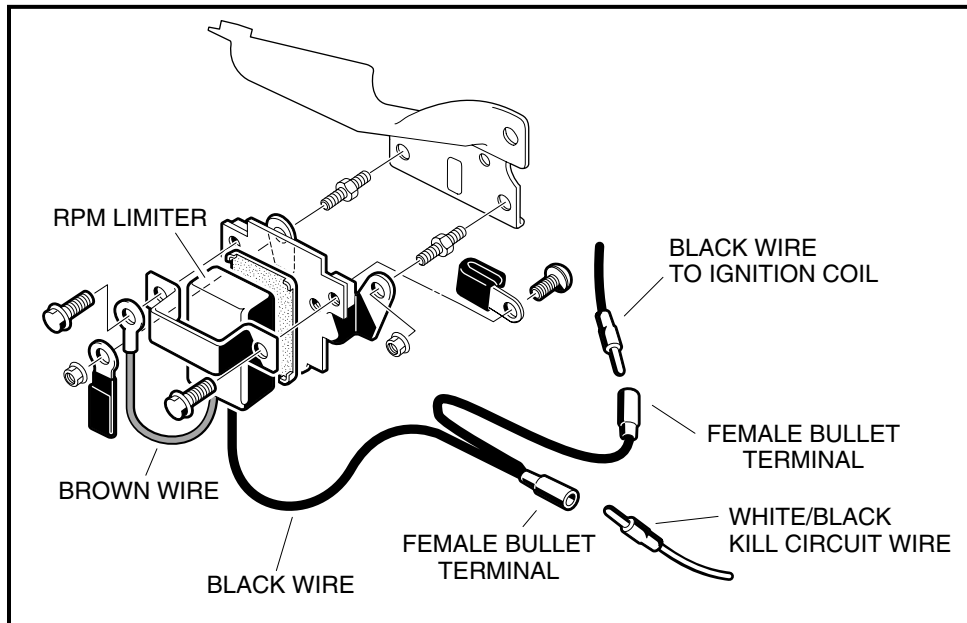

Figure 11b-32 RPM Limiter
3. Disconnect both of the bullet terminals (**Figure 11b-32, Page 11b-27**).